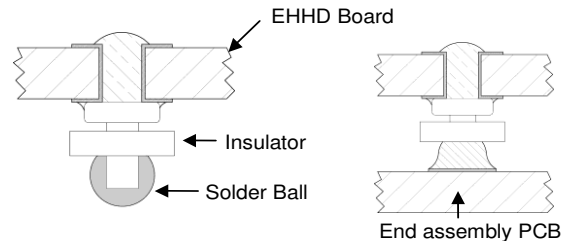

Figure 22. Column Pin Connector Before and After Reflow Soldering.
The surface mountable modules in the ESTW006A0Bxx-S family use our newest SMT technology called "Column Pin" (CP) connectors. Figure 22 shows the new CP connector before and after reflow soldering onto the end-board assembly. The CP is constructed from a solid copper pin with